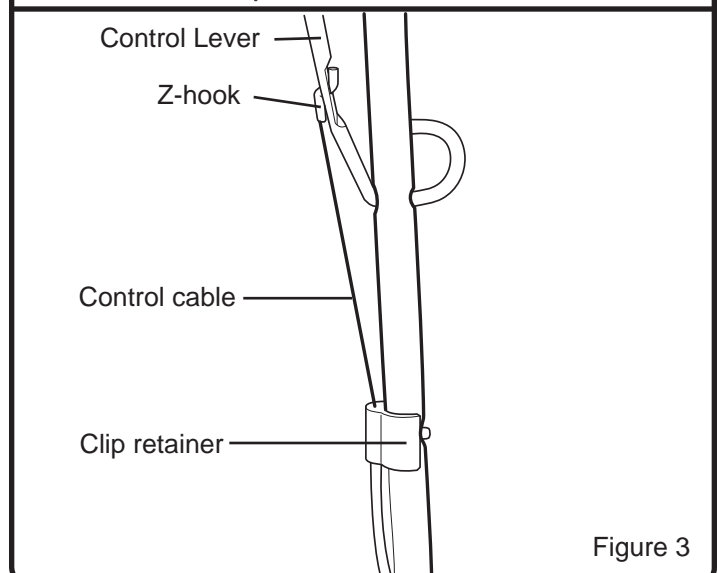

Figure 3
**NOTE:** Refer to Figure 3 when following the steps below